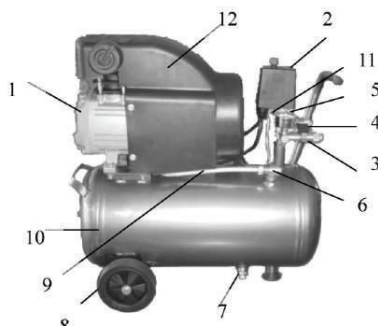

Fig.1
2. GENERAL VIEW AND MAIN COMPONENTS (Fig.1)